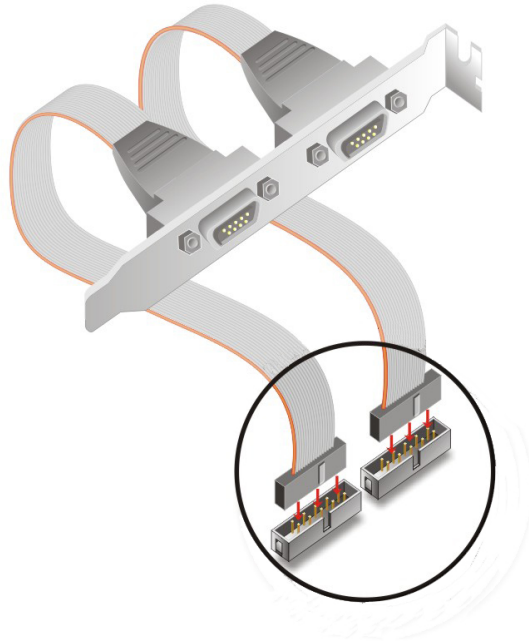

Figure 5-7: Dual RS-232 Cable Installation
Step 2: Insert the cable connectors. Insert one connector into each serial port box headers. See **Figure 5-7**. A key on the front of the cable connectors ensures the connector can only be installed in one direction.